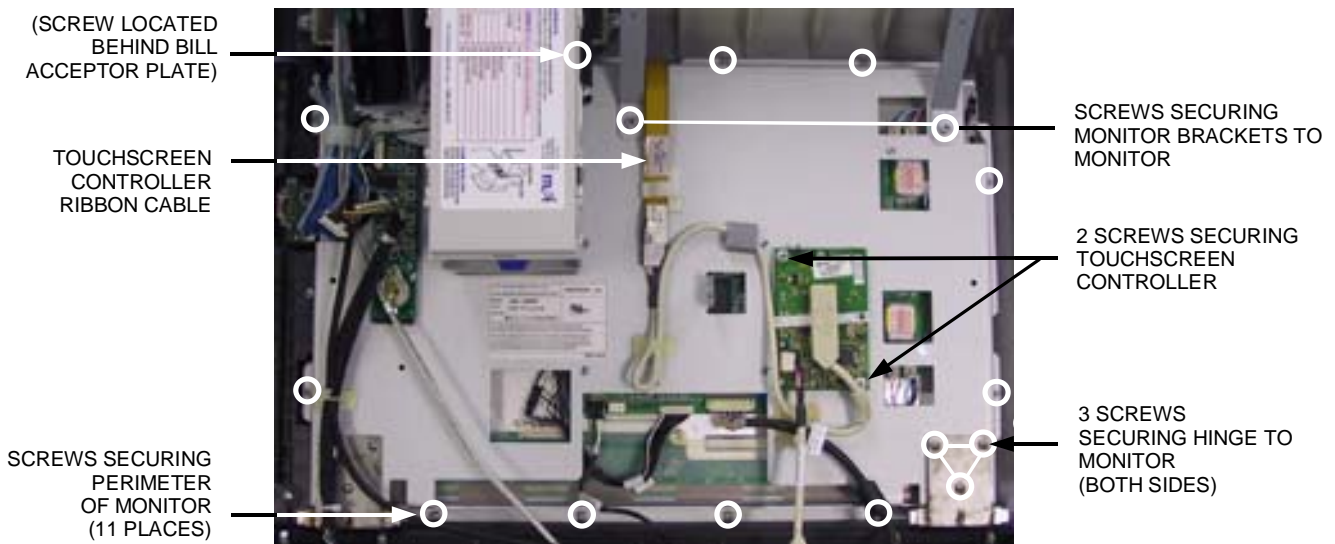

FIGURE 4 - SCREW LOCATION ON REAR OF MONITOR
6. Remove the 2 screws securing the touchscreen controller to the rear of the monitor assembly (see Figure 4), then move the touchscreen controller out of the way for the moment.
7. Remove the screws securing the monitor brackets to the rear of the monitor assembly, then remove the 11 screws that secure the perimeter of the monitor (see Figure 4). Remove the monitor from the bezel.
8. *If you are replacing the monitor:* Remove the 3 screws securing each hinge to the bottom of the monitor (see Figure 4).
1. *If you are replacing the touchscreen:* Place the new touchscreen into the monitor bezel with the touchscreen controller ribbon positioned at the top of the bezel (see Figure 4). The touchscreen should rest flush against the foam on the inside of the bezel, and the tape on the new touchscreen should be positioned away from the bezel. **NOTE: Do NOT remove the backing from the tape on the touchscreen.** Replace the monitor on top of the touchscreen with the same orientation it had before you removed it from the system (see Figure 4). Be sure to wrap the touchscreen controller ribbon over the top of the monitor as shown in Figure 4. Attach the touchscreen controller cable connector to the touchscreen controller (see Figure 1), then secure the touchscreen controller to the back of the monitor using the same 2 screws you removed earlier (see Figure 4).
*If you are replacing the monitor:* Place the new monitor on top of the touchscreen in the same orientation as the monitor you removed (see Figure 4). **NOTE: Do NOT remove the backing from the tape on the touchscreen.** Be sure that the touchscreen controller ribbon cable coming from the touchscreen is wrapped over the monitor as shown in Figure 4. Secure the touchscreen controller to the back of the monitor using the same two screws you removed earlier (see Figure 4). Reconnect the OSD cable connector to the OSD board, then secure the OSD board to the Velcro on the rear of the new monitor (see Figure 1 for proper location). Attach the bottom hinges to the new monitor using the 6 screws (3 for each hinge) you removed earlier (see Figure 4). You may need to attach the provided wire clamps to the rear of the monitor assembly. If so, note their location on the rear of the monitor you removed, or use Figure 4 as a guide.
2. Resecure the 11 screws around the perimeter of the monitor (see Figure 4), and secure the monitor brackets to the rear of the monitor with the 2 screws you removed earlier (see Figure 4).